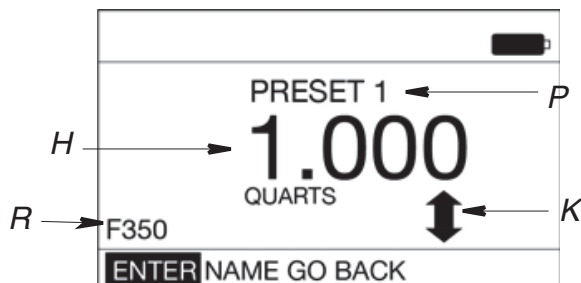

FIG. 46
2. The screen shown in FIG. 46 displays.
- P PRESET TITLE -** Identifies which preset option is being set up. The example in FIG. 46 shows PRESET1. This means you are setting up the PRESET parameters for PRESET1 in the list.
- R NAME -** Additional information about the PRESET, such as the type of engine or vehicle make/model, fluid type, etc. The example shown in FIG. 46 shows F350 in the NAME field on the display for PRESET1.
Be sure ENTER in the lower left corner of the display screen is highlighted (FIG. 46).
1. Use the UP AND DOWN ARROW on the keypad to increase or decrease the PRESET AMOUNT (H) (FIG. 46).
1. Use the RIGHT ARROW on the keypad to highlight NAME (FIG. 46). Press the center ENTER button on the keypad to select NAME.